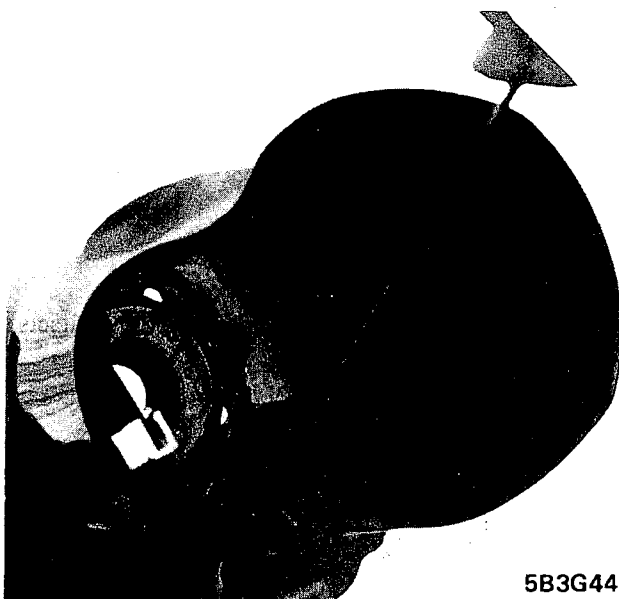

Figure 3G-44 - Removing Shroud to Bowl Screws
17. Remove back and lock bolt assembly. Figure 3G-46.